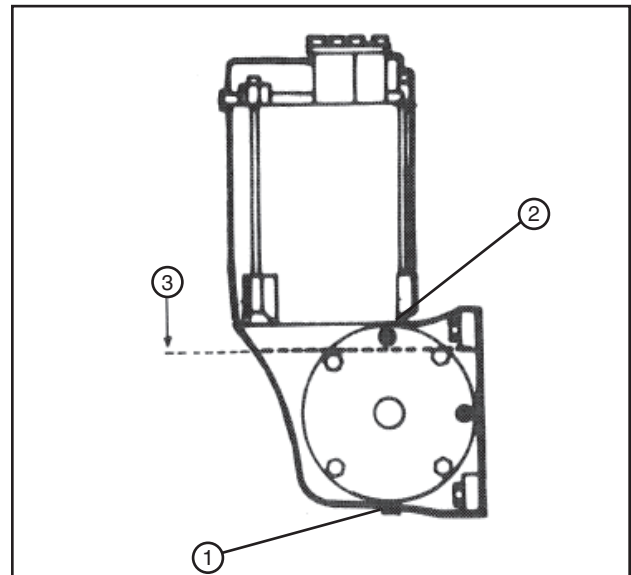

Figure 93-3 1. Drain Plug
1. Remove the drain plug and the fill plug. Drain the oil and install the drain plug. See figure 93-3.
2. Fill the gearbox to within 1/2 in (12.7 mm) of the bottom of the fill plug hole with Valley Gear Lube. The capacity of the gearbox is approximately 1 quart (0.9 liter). See figure 93-3.